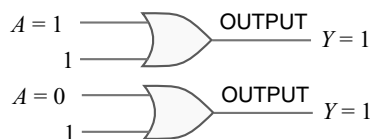

Fig. 24.43
**Theorem 7.** ( $A + 1 = 1$ ). This theorem states that when a variable  $A$  is ORed with 1, the output is always equal to 1. Fig. 24.43 illustrates this theorem. One input to an OR gate is always 1 and the other input  $A$  can be either 1 or 0. Now 1 on an input to OR gate produces 1 on the output regardless of the value of the variable on the other input.